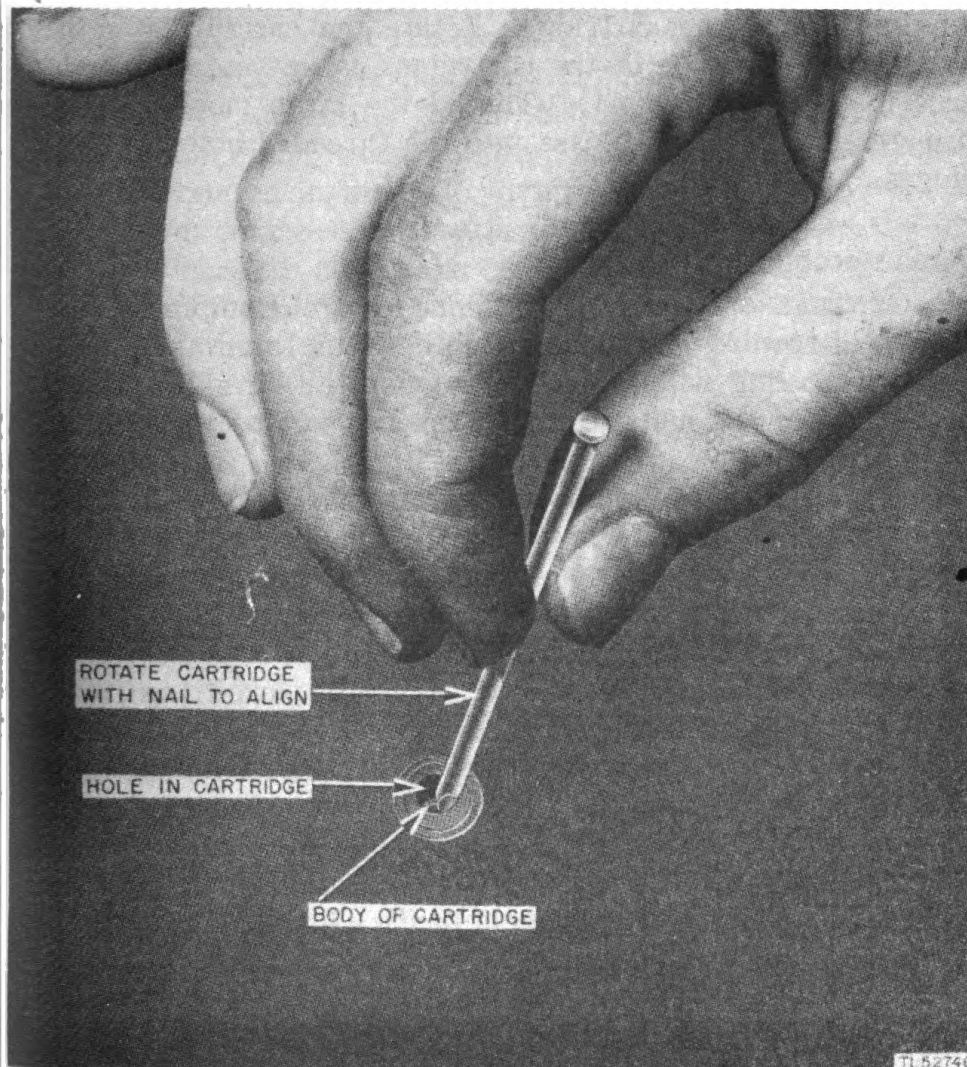

*Figure 40. Replacing horn in case.*
- (2) Remove the four screws on the top of the case which hold the relay in place.
(3) Remove the two large screws on the sides of the case. These are the primary mounting screws for the unit assembly.
(4) Turn the horn so that the back of the case is pointed downward. Grasp the sides of the case and spread them until the unit drops away from the friction holding lugs inside the case.
(5) Remove the two screws on the terminal panel and let the panel swing free.
(6) Place the unit in its normal position and lift the horn assembly out and up.
(7) Replace the unit by reversing the procedure above (fig. 40). When reversing step in (3) above, it may be necessary to insert the point of a knife through the holes in the side of the case and rotate the cartridge. Rotate the cartridges until the threaded hole in each of the cartridges can be seen through the holes in the case (fig. 41). Thread the large mounting screws through the holes in the case into the threaded holes in the cartridges.